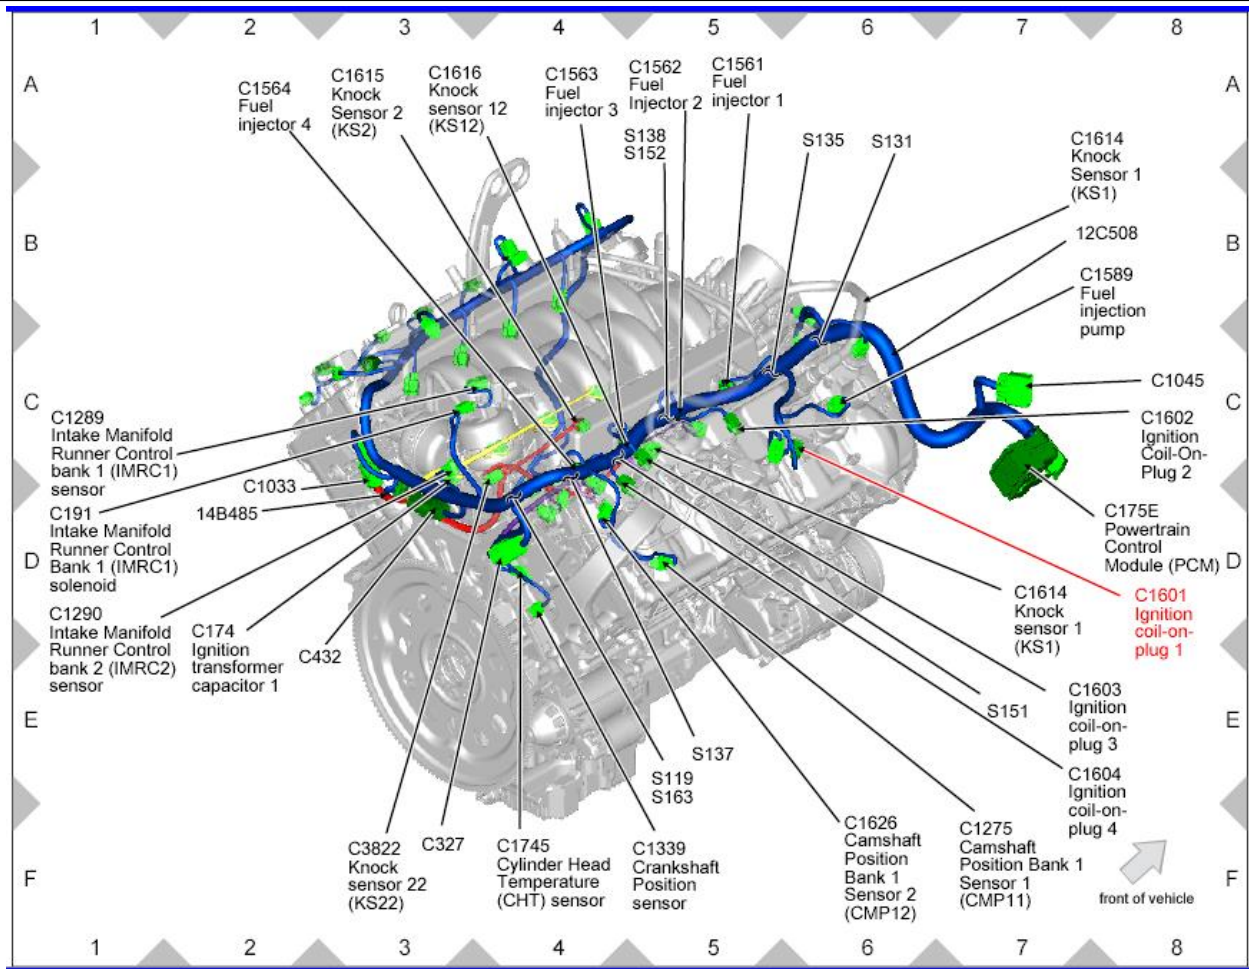

Figure 2 – Rear View of Engine.
1. Identify proper mounting location for the PCM, Power Distribution Box (Item A) & Inline Fuse Holder. Locate the PCM connector (C175E) on the engine harness as indicated in Figures 2 and 3 by the "START HERE" arrow.